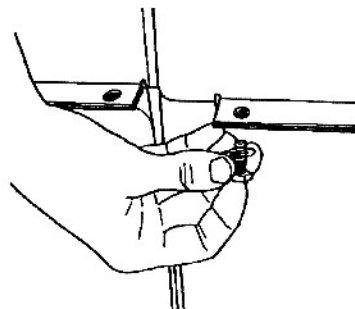

Fig. 6
10. Insert the bolt up through both a base hole and leg hole, as shown in Fig. 6. Leave open the holes previously used to attach the corner braces (later you will re-attach the corner braces using these holes).